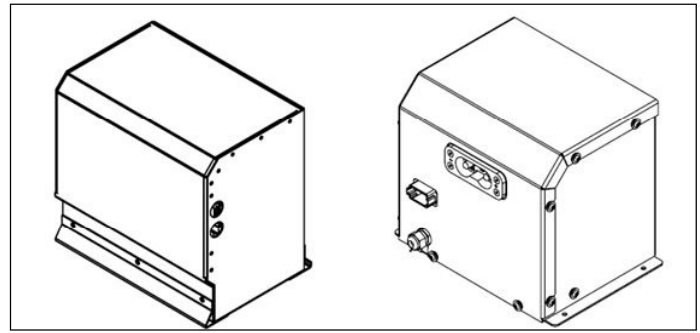

Figure 11 — PM100 Power Module
9. Depending on the model, the JEMS battery pack contains 3 or 4 battery modules. Some units are also equipped with a PM100 series power module located in the first vertical body compartment or near the inverters. The PM100 contains an auxiliary battery module (refer to Figure 11).